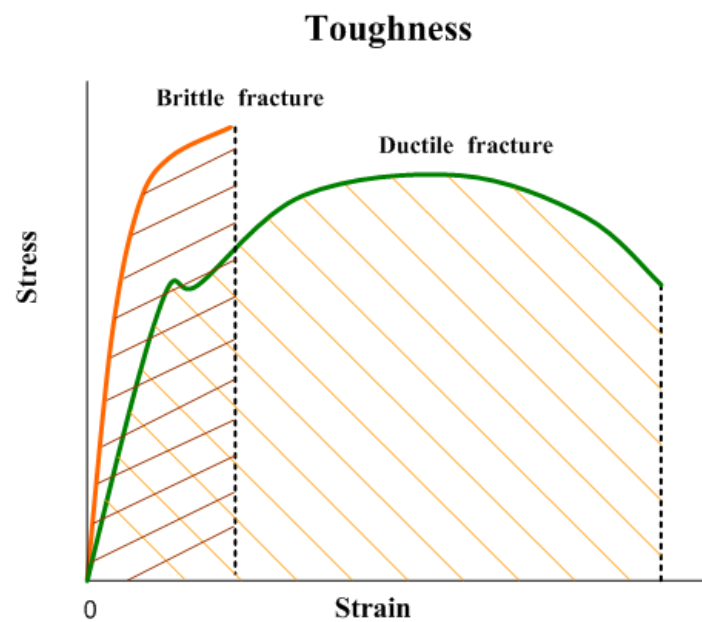

Fig.6 Fracture toughness of a material corresponds to the area under the stress-strain curve.
6. One measure of **toughness** is the amount of energy absorbed by the material up to fracture, as depicted in Fig. 6. In the tensile test, this is given by the area under the stress-strain curve. **Estimate the toughness** using the trapezoidal rule in Excel.